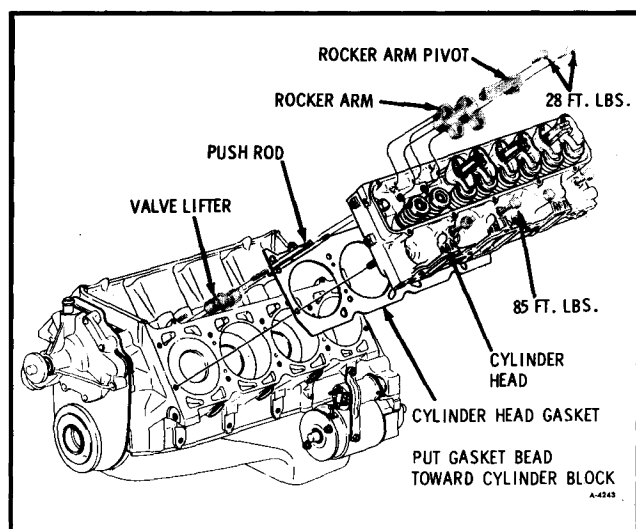

Figure 22—Removing Rocket Arms
2. Remove rocker arm, flanged bolts, pivot and rocker arms. See Figure 22.